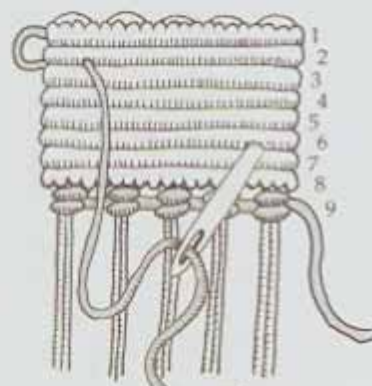

Fig. 6
2. Flip the earring so that the back is facing you and pass the needle through the 3rd opening from the left in the area between rows 1 and 2. (It's tiny I know, but it's there!) Pull through (see Figure 6).
3. Flip the earring over to the front and find the 3rd opening from the left in the area between rows 6 and 7. Sew the **Runner** cord through, pull snug and remove the cord from the needle (see Figure 6).